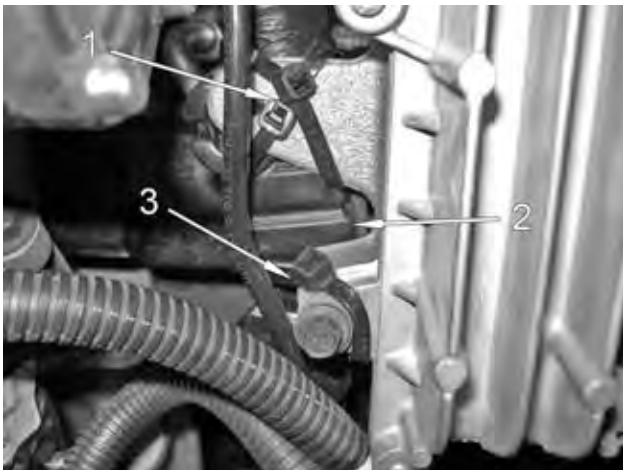

Figure 31. ECM Support and Engine Sensor Harness
22. Tighten previously loose tie strap around lower left ECM support bolt (Figure 31).